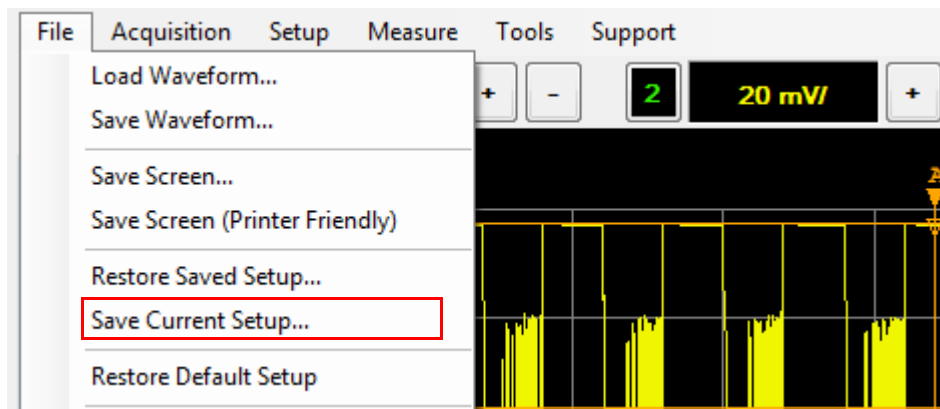

Figure 2-146 Save Current Setup... selection in the File menu
- 1 Select **File > Save Current Setup...** on the toolbar to save the current 8990B state to your desired directory in an XML file as shown in Figure 2-146.